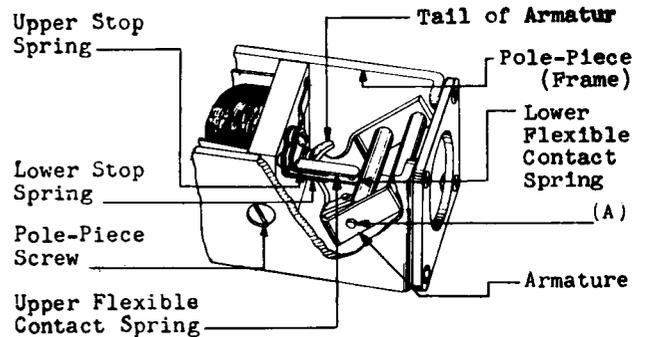

Fig. 1 - No. 186-type Relay
- 2.03 **Armature Movement:** Fig. 1(A) - The armature shall move freely in its bearings and shall not bind against any other part of the relay.
2.07 Armature Clearance: Fig. 1 - With the armature in its operated position, there shall be a clearance between the armature and the lower stop spring of minimum 0.008 inch.